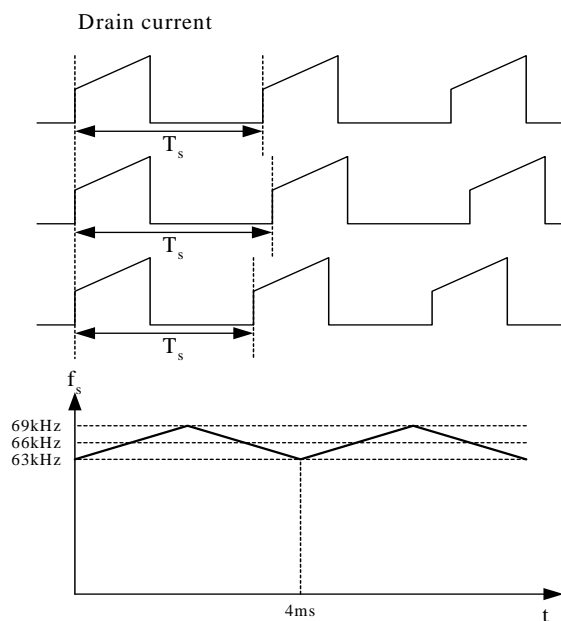

Figure 9. Frequency Modulation
**4. Frequency Modulation :** EMI reduction can be accomplished by modulating the switching frequency of a switched power supply. Frequency modulation can reduce EMI by spreading the energy over a wider frequency range than the band width measured by the EMI test equipment. The amount of EMI reduction is directly related to the depth of the reference frequency. As can be seen in Figure 9, the frequency changes from 63KHz to 69KHz in 4ms.